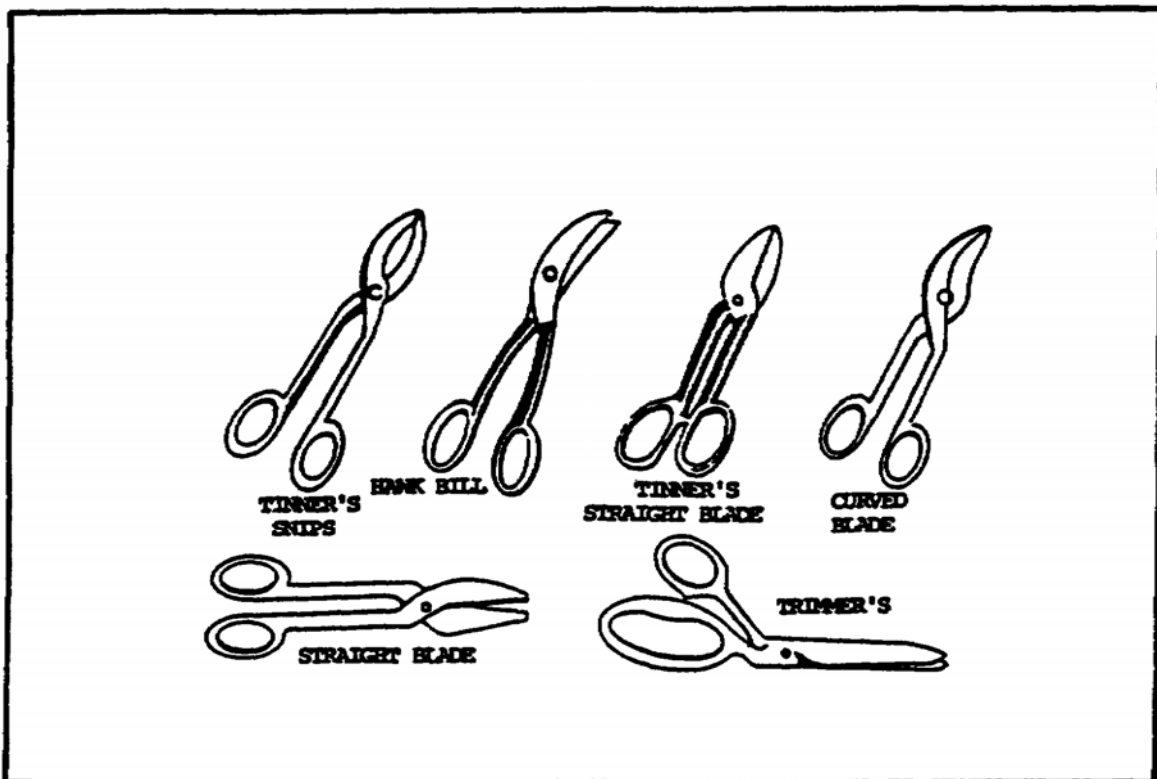

FIGURE 114. HAND SHEARS.
b. *Types of Shears.* Shears are made in a variety of shapes and sizes and are used according to their design and capacity. Hand shears (figure 114) are used for light work and are made with straight or curved cutting blades. Straight bladed